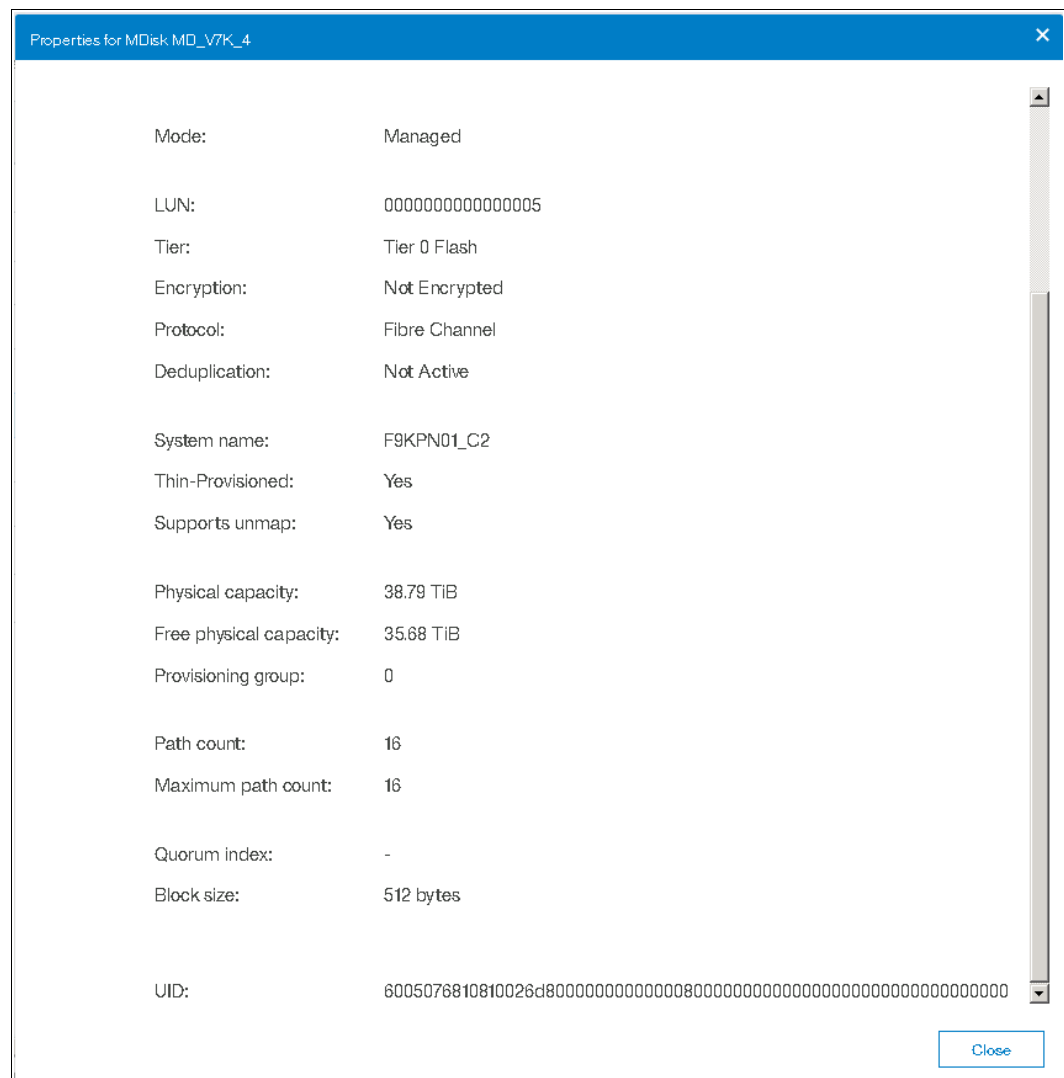

Figure 4-15 SAN Volume Controller MDisk details for IBM FlashSystem volumes
3. At the virtualizer, review the MDisk details and compare the MDisk UID field with the IBM FlashSystem Volume UID, as shown in Figure 4-15. The first 32 bits should be the same.